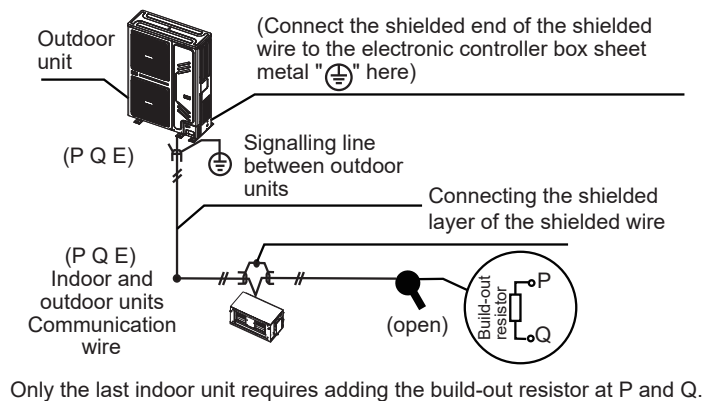

Figure 28.
- The communication wiring between the indoor and outdoor units should connect one unit after another in a daisy chain from the outdoor unit to the indoor unit, and the shielded layer must be properly grounded, and a build-out resistor must be added to the indoor unit to enhance the stability of the communication system. Refer to Figure 28 on page 30.